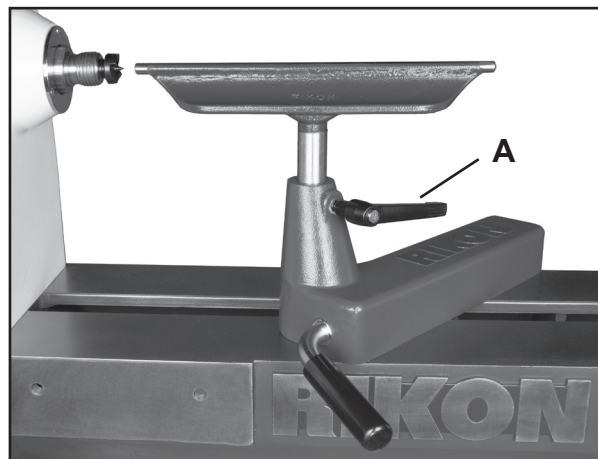

FIG. 8
Install the 12" long PRO Tool Rest (T) into the Tool Rest Base (also called a Banjo) (D). Secure the tool rest's 1" diameter post in the base with the Adjustable Locking Handle (#2A). Figure 8, A.